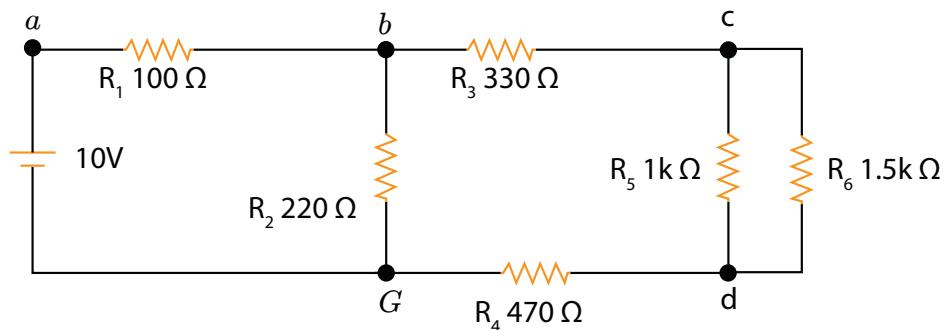

Figure 3.4.3: The resistive circuit for Experiment 3.
8. Consider the circuit of Figure 3.4.3. Calculate the resistance as seen from the terminals of the 10 V dc source.
5. Build the circuit of Figure 3.4.3 on your prototyping board, using the laboratory power supply as the 10 V source.